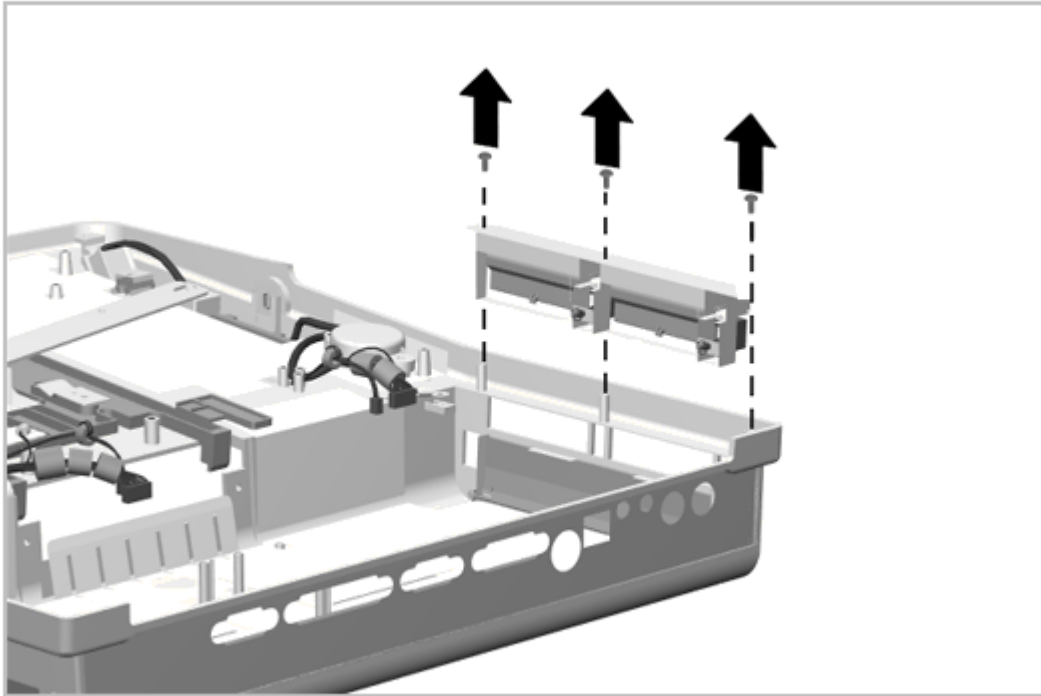

Figure 6-23. Removing the PC Card Door Assembly
4. Remove the three screws and lift the PC Card door module out of the bottom cover assembly (Figure 6-23).